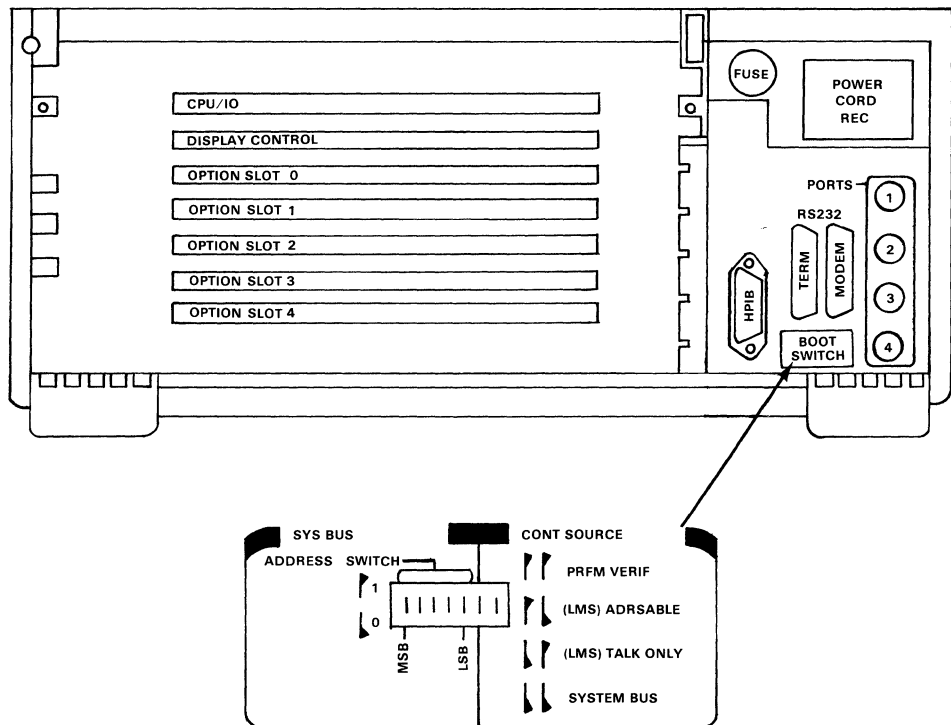

Figure 4-1. Rear Panel Switches
- a. Set rear panel switches to PV positions. See figure 4-1.